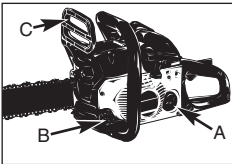

Abb. 8
1. Fill the fuel tank (A) with the correct fuel mix (Fig. 8).
2. Fill the oil tank (B) with the correct chain and bar oil (Fig. 8).
3. Before you start the engine, make sure that the chain brake (C) is released.